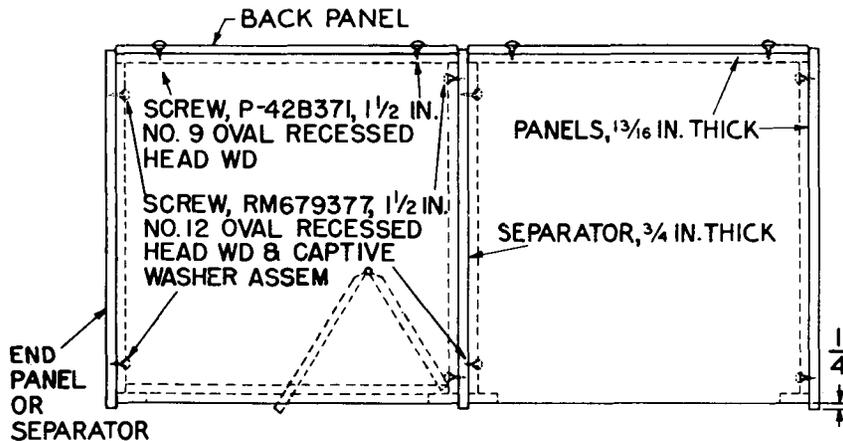

Fig. 1 - Typical Layout
- Screw holes are aligned to facilitate assembly in the field. When assembled, the sides of the booth unit shall make contact with the separators or panels along their entire length. Assemble booths in accordance with layout shown in Fig. 1.